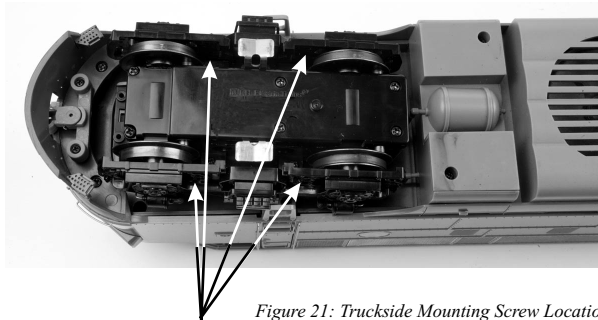

Figure 21: Truckside Mounting Screw Locations
1. Remove the truck sides from the truck block in order to slip the new tire over the grooved drive wheel. Each truck side is attached to the truck block via (2) screws as noted in Figure 21.